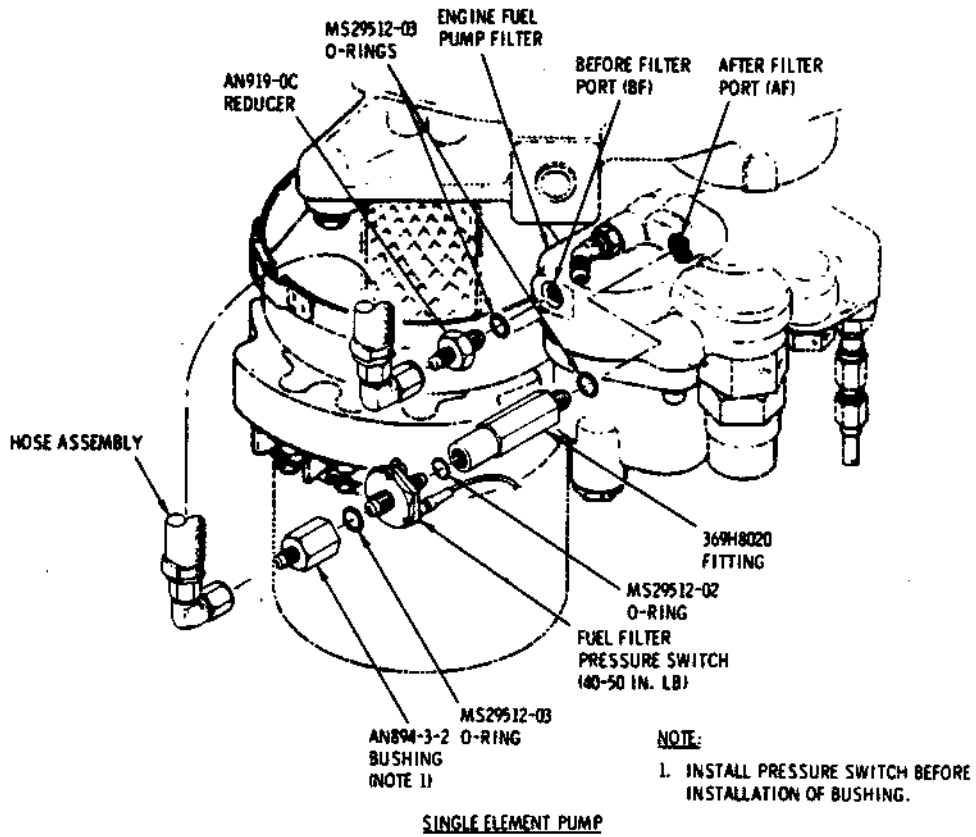

Figure 1. Fuel filter pressure switch installation
The installation shown in figure 1 is correct for the affected helicopters and will appear in the next revision of the 369 Series Basic HMI.
- b. Check the fuel filter pressure switch hose installation for conformity with the exploded view shown in figure 1. Note that the correct fuel filter pressure switch location is in the filter port furthest from the starter-generator.